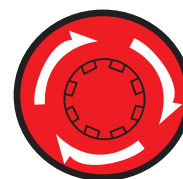

Figure 62. Emergency Stop Switch
1. To stop the engine in the event of an emergency, press the **Emergency Stop switch** (Figure 62), located on the side of the generator next to the output terminal panel.